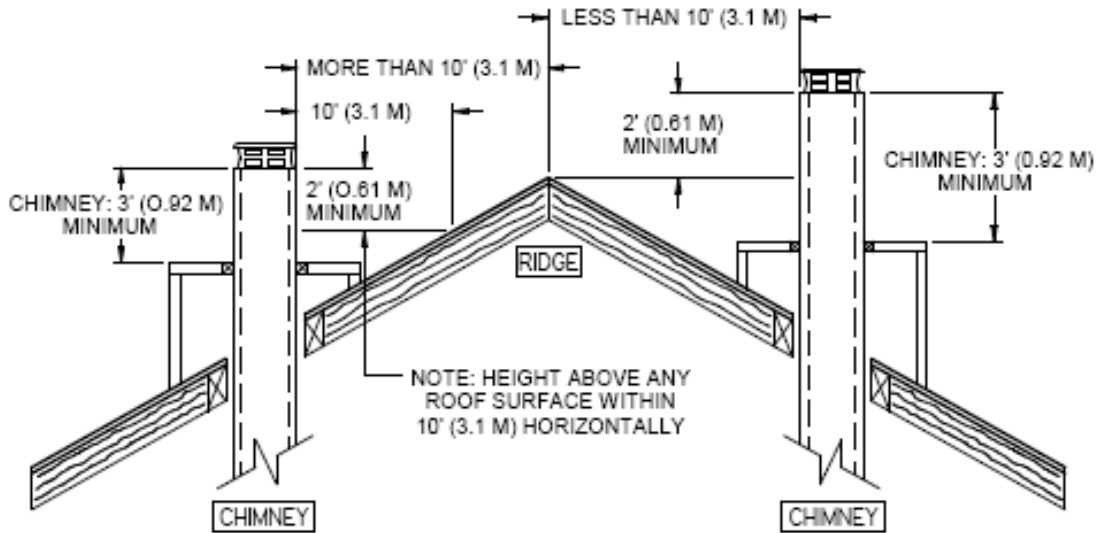

Figure 7c
12. **When you build a chase enclosure for chimney sections above the roof**, the chimney must extend at least 3 ft. (92 cm) above the chase enclosure and at least 2 ft. (61 cm) higher than any wall, roof or building within 10 ft. (3.1 m) of it. See Figure 7c and 7d to determine the configuration that applies to your roof (flat or sloped roof) and the distance between the chimney and the highest point of the roof and/or the nearest chimney).